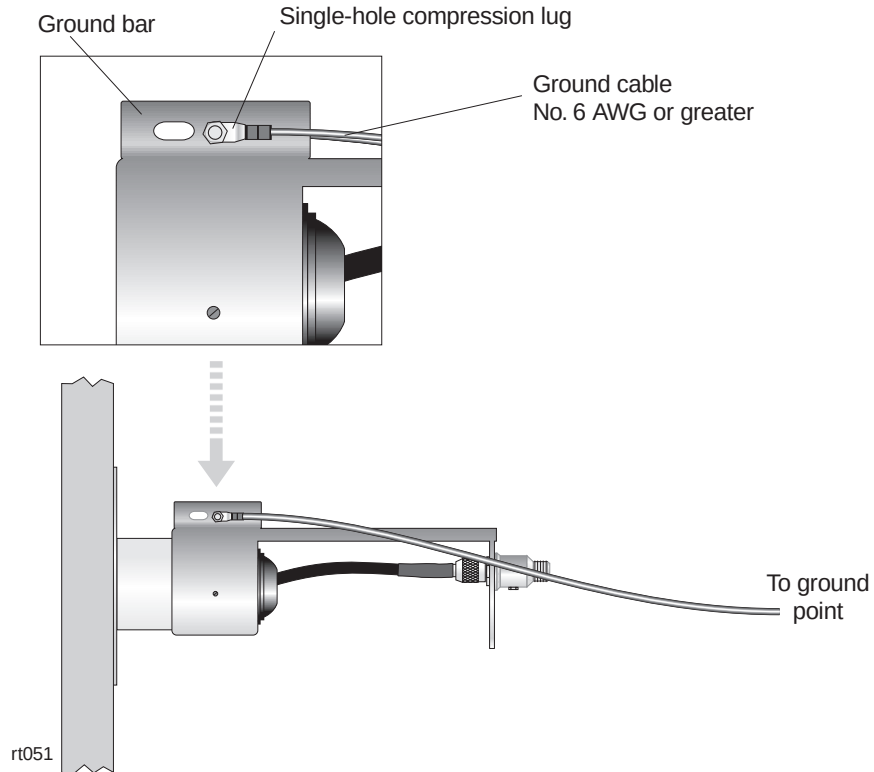

Figure 4-10 RT lightning arrestor grounding connections
1. Connect one end of the ground cable (No. 6 AWG or greater, green) to the lightning arrestor ground bar, as shown in figure 4-10.